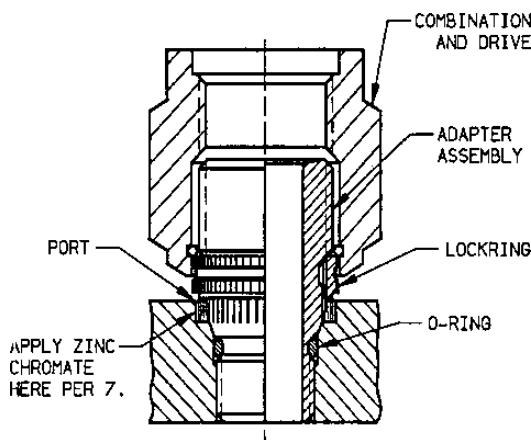

FIGURE 2
- Using the applicable combination wrench and drive tool on page 5, engage the serrations of the tool with the external serrations of the adapter locking per Figure 2. Place a torque wrench of the proper size over the hex of the wrench and apply a torque equal to the minimum value specified by the size in TABLE I. Note the relationship of the serration of the locking with respect to the prebroached serrations in the port. If they match, proceed to 7. If the serrations do not match, continue to slowly torque the adapter toward the maximum value allowed in TABLE I until the serration of the locking match the port serrations. This will normally take between 3ø and 8ø of turning and the maximum torque value need not to be reached if the serrations align themselves prior to that value. Do not exceed maximum torque values.